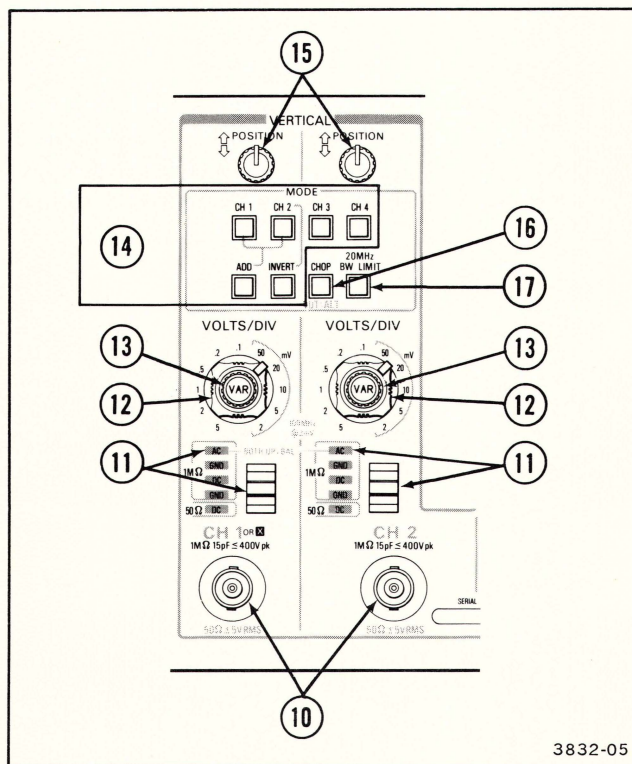

Figure 3-2. Vertical controls and CH 1 OR X and CH 2 connectors.
Refer to Figure 3-2 for location of items 10 through 17.